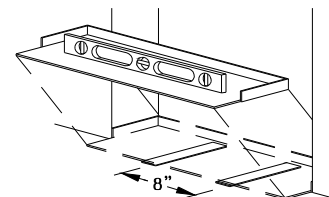

Figure 1:
- Place sillpan into the opening and determine leveling (Figure 1) that must be done prior to installation.